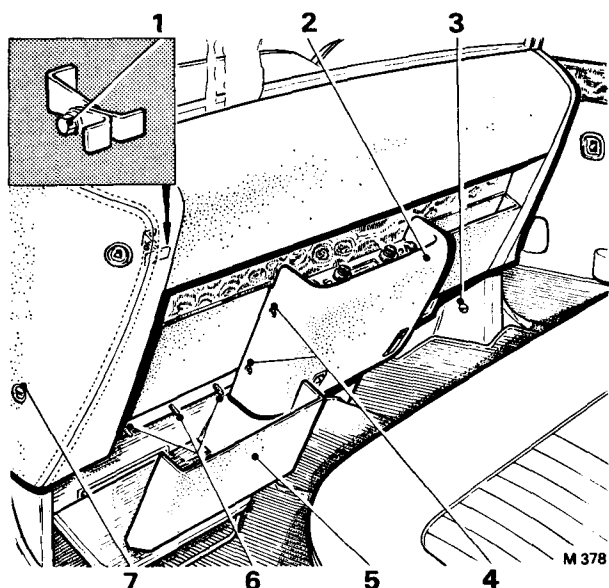
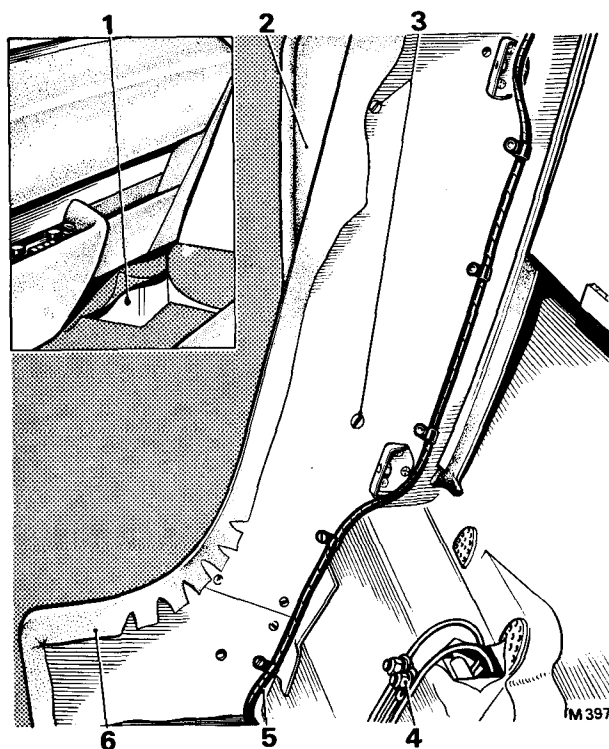

FIG. S66 POSITION OF THE DIVISION CONSOLE MOUNTING SCREWS
FIG. S67 SCREWS SECURING THE DIVISION TO THE BODY CENTRE PILLAR
9. Open the rear door and remove the screw in the side of the division end trim panel (see Fig. S66);
(see Fig. S66)
(see Fig. S67)
5. Detach the roof lamp switch looms from each side of the division by removing the screws securing the loom clips to the division (*see Fig. S67*).
11. Remove the six countersunk-headed screws securing the division to the centre pillars; the two upper screws on each side are situated at the front of the division (*see Fig. S67*), the lower screw on each side is at the rear of the division (*see Fig. S66*).